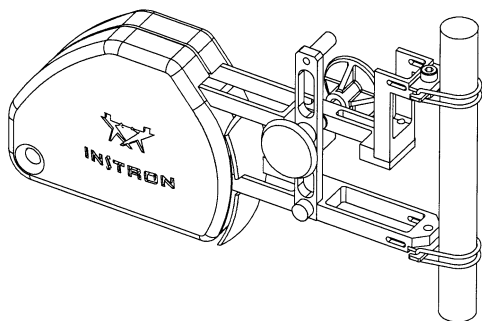

Figure 10. Specimen Attachment Using Elastic Bands
2. Stretch good quality elastic bands or O-rings around the specimen and loop the ends over the two knife edge hooks, as shown in Figure 10.